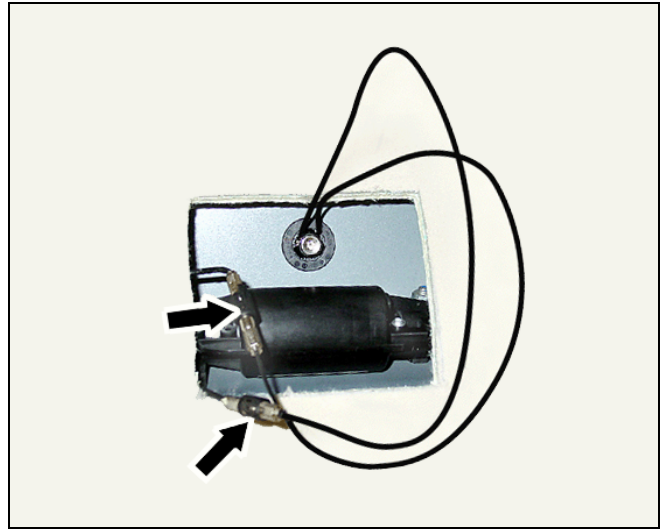

Figure 7
10. Connect the leads from the SDARS antenna to the preinstalled antenna leads (Figure 7).